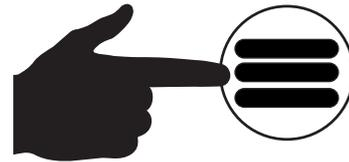

Figure 51. Main Menu Button
6. Press the **Main Menu button** (Figure 51).